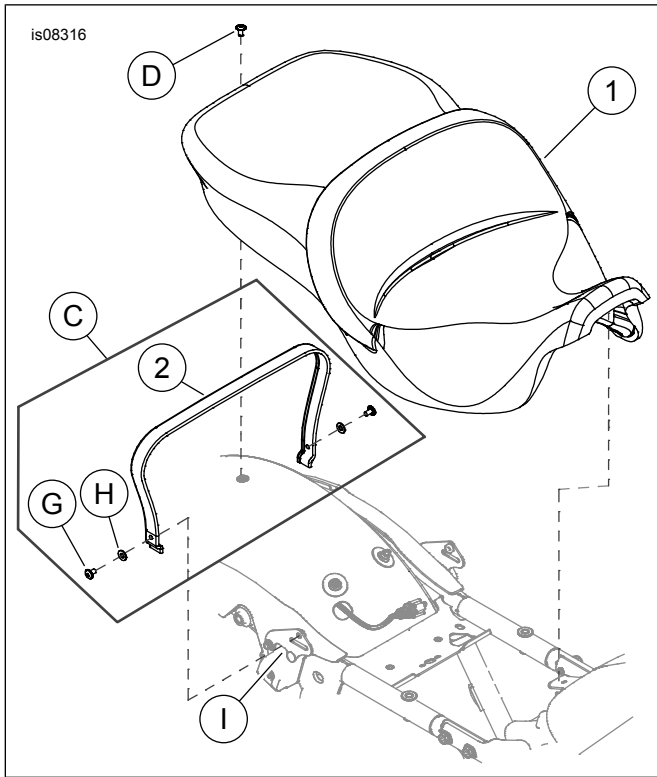

Figure 2. Kit Contents: Touring Seat
1. See Figure 2. Remove grab strap screws (G), washers (H) and grab strap from vehicle.
3. Remove screw with lockwasher (D) and seat.